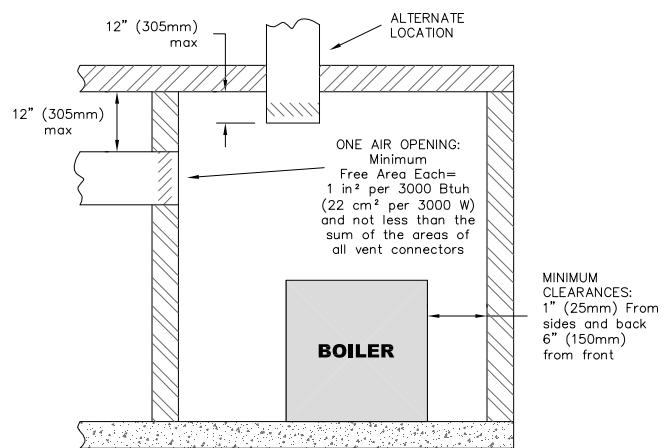

Figure 1.6: Air Openings - All Air from Outdoors through One Opening
b. **One Permanent Opening Method:** Provide one permanent opening beginning within 12 inches (305 mm) of the top of the space. The opening shall communicate directly with the outdoors, communicate through a vertical or horizontal duct, or communicate with a space that freely communicates with the outdoors. The opening shall have a minimum free area of 1 in² per 3000 Btu/hr of total rated input for all appliances in the space and not less than the sum of the cross-sectional areas of all vent connectors in the space. The gas-fired equipment shall have clearances of at least 1 inch (25 mm) from the sides and back and 6 inches (150 mm) from the front of the appliance. See Figure 1.6 for this arrangement.